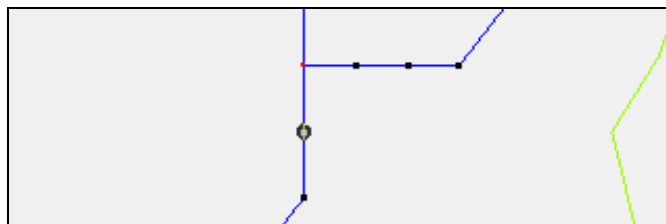

Figure 7 Select the vertex just below the junction point
9. Using the **Select Feature Vertex**  tool, select the vertex just below the main branching point (Figure 7).